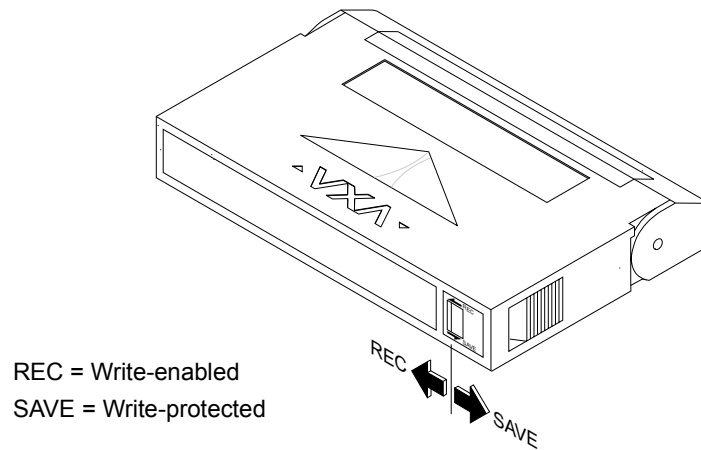

Figure 2-3 Setting the write-protect switch
1. Verify that the write-protect switch on each cartridge is set correctly, as shown in **Figure 2-3**. You can use a ball-point pen or similar instrument to set the write-protect switch.